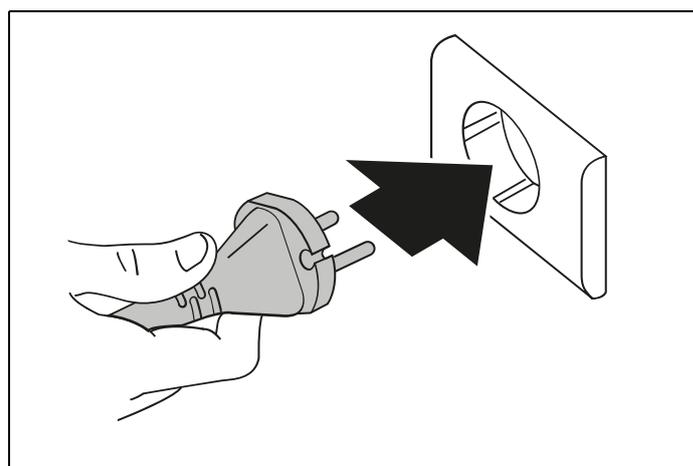
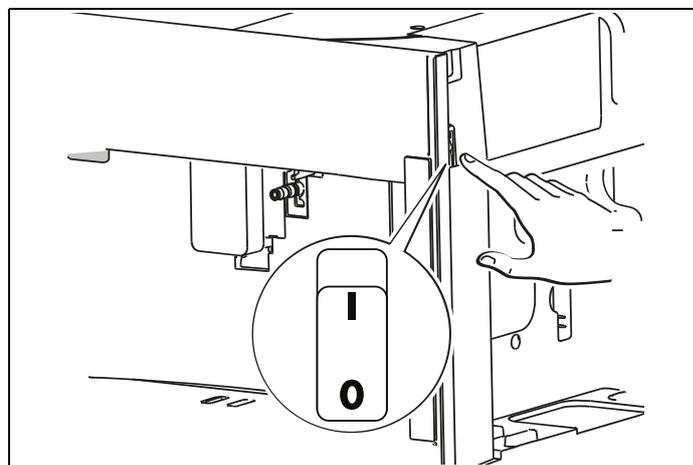

Fig. 15
Fig. 16
- 1) Connect the appliance to the mains electricity supply (Fig. 15) and make sure the main switch (**A19**) on the side of the appliance is pressed down (Fig. 16);
Before turning the appliance on, make sure the main switch (**A23**) is pressed (Fig. 16). Each time the appliance is turned on, it performs an automatic preheat and rinse cycle which cannot be interrupted. The appliance is ready for use only after completion of this cycle.
- 2) Release the main switch **(A23)** situated on the side of the appliance (Fig. 16).